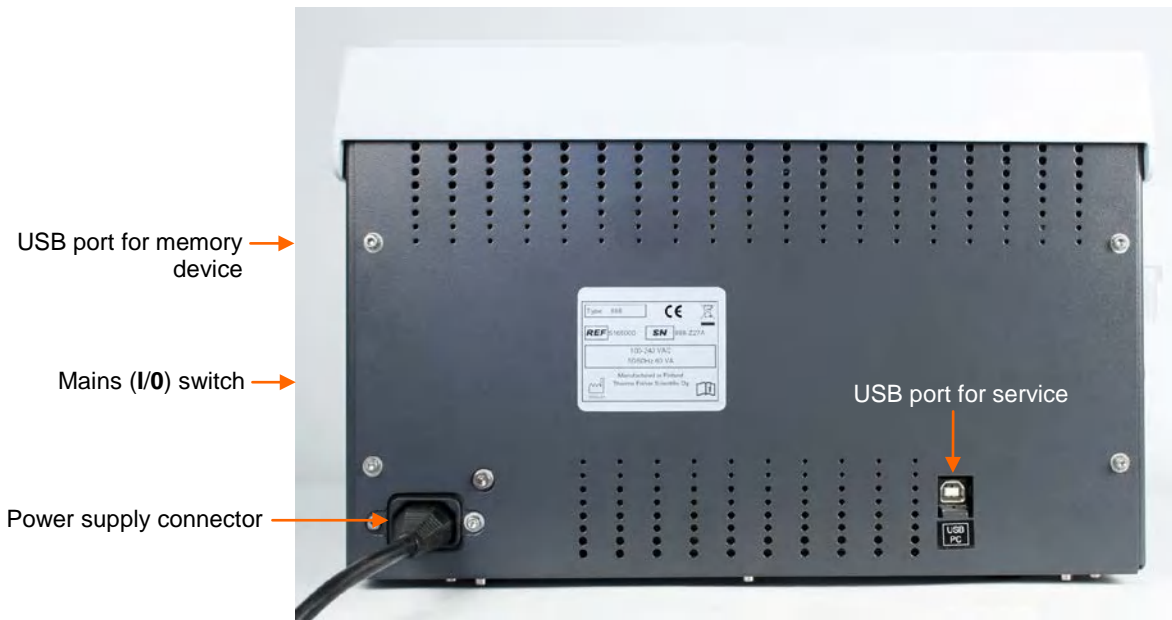

Figure 18. Connecting the power supply cable
1. Ensure that the mains (I/O) switch (Figure 18) at the right-side panel of the instrument is in the off (0) position.
It is possible to connect the instrument to an external computer for service purposes (Figure 18).